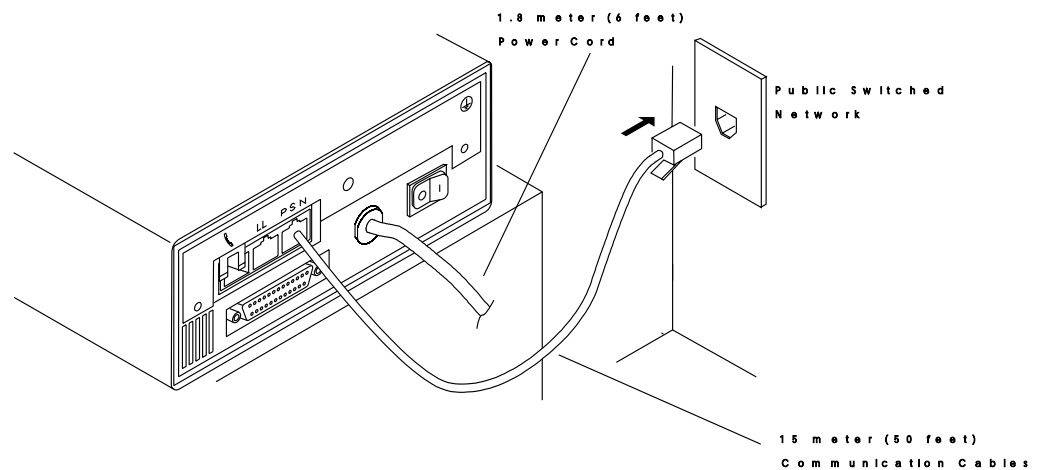

Figure 1-89. Installing Telecommunication Line Cables. Your modem's rear panel may have the PSTN and LL connectors located differently from those shown.
2. ____ **Plug** the switched network telecommunication cable into the 8-pin *PSTN* or *PSN* jack located on the modem's rear panel. If this modem is **not** being installed in the United Kingdom, connect the other end of the cable to the telecommunication line. See Figure 1-89.